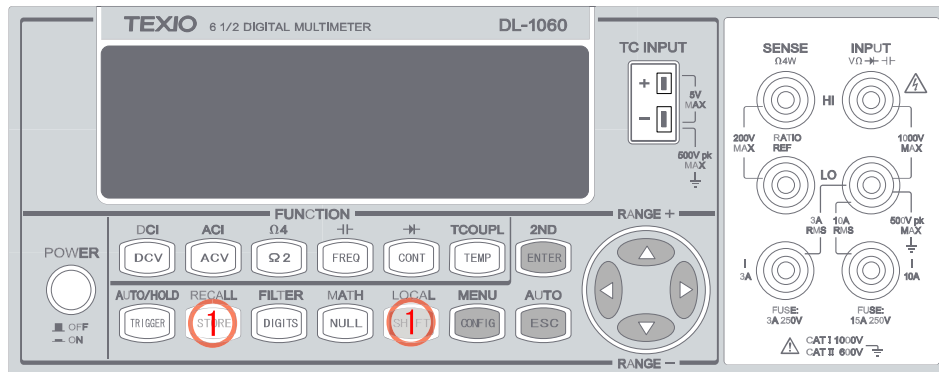

Figure 3-33
1. Press SHIFT + STORE buttons, and the multimeter will display all the stored readings starting from the first reading. Use ◀ and ▶ buttons to move from the first reading to the last reading the meter has stored as shown in **Figure 3-33**.